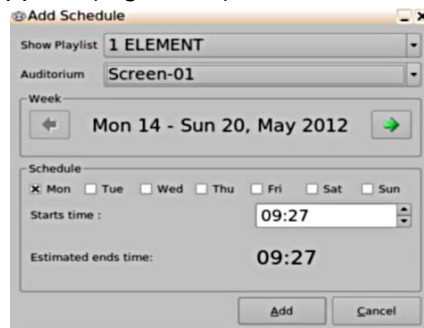

Figure 38: Add Schedule Window
- The following window will appear (Figure 38):